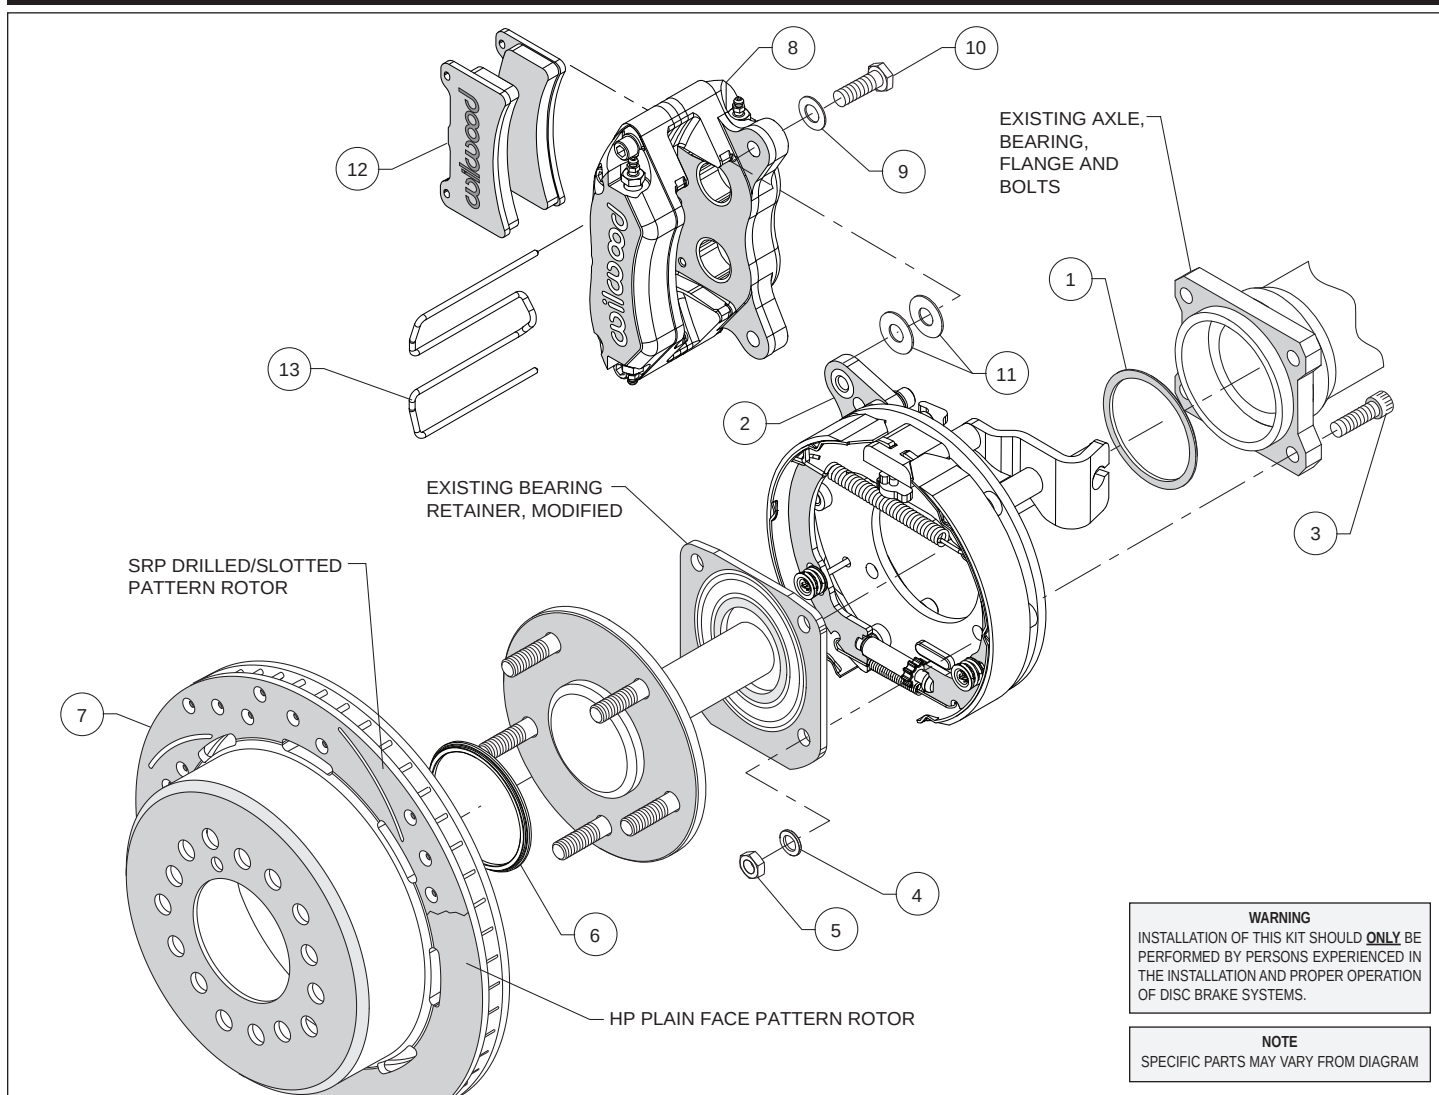
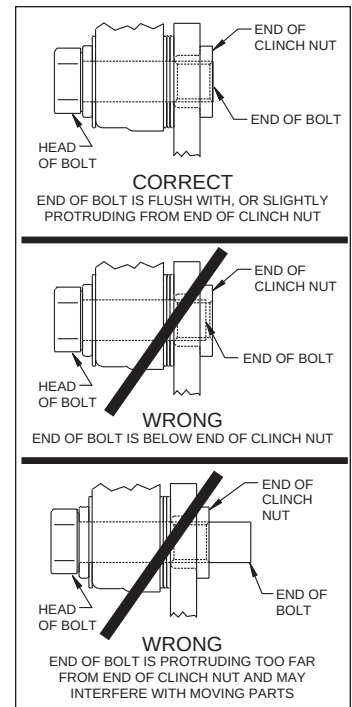

Figure 1. Typical Installation Configuration
Figure 5. Clinch Nut Engagement Diagram
Assembly Instructions (numbers in parenthesis refer to the parts list, and Figure 1 on the preceding pages): **CAUTION:** All mounting bolts must fully engage clinch nuts. Be sure to check that all bolts are either flush or protruding through flanged side of clinch nut after shimming, Figure 5.
- With the bearing retainer in place, slide the caliper mounting bracket assembly (2) onto the axle as shown in Figure 1 and Photo 1. Install axle shim (1) over axle shaft with bearing chamfer facing toward the axle housing, as shown in Photo 2.
- Slide the axle and parking brake assembly into the axle housing ensuring that the backing plate is flush with the axle housing flange and the bearing retainer is flush with the backing plate. Secure OEM bearing retainer using bolts (3), washers (4) and lock nuts (5), as shown in Figure 1. Lock nuts (5) and washers (4) that retain the caliper mounting bracket assembly (2) should be on the wheel side of the bracket, Figure 1. Torque nuts to 40 ft-lbs.
- Slide the rotor registration adapter (6) onto the axle register on the axle flange with the smaller O.D. facing toward the rotor/hat (7), Photo 3. Align the correct hole pattern in the rotor/hat with the stud pattern on the axle flange and slide into place, Figure 1 and Photo 4. **NOTE:** The rotor/hat must fit flush against the axle flange or excessive rotor run out may result. Install three lug nuts (finger tight) to keep the rotor/hat assembly in place while continuing with the installation. **NOTE:** Some OEM and after market axles come with stud sizes larger than 0.50" diameter. Verify stud size and have a qualified machine shop drill the bolt circle of the hat/rotor to the correct stud size, if necessary.
- NOTE:** Please reference the caution statement at the beginning of the assembly instructions. Mount the caliper (8) onto the caliper mounting bracket (2) using bolts (10) and washers (9), as shown in Figure 1. Initially place two .035" thick shims (11) on each bolt between the caliper and the bracket, Photo 5. Temporarily tighten the mounting bolts and view the rotor (7) through the top opening of the caliper. The rotor should be centered in the caliper, Photo 6. If not, adjust by adding or subtracting shims between the bracket and the caliper. Always use the same amount of shims on each of the two mounting bolts. **NOTE:** The end of each bolt must be flush with or slightly protruding from the head of the clinch nut, as shown in Figure 5. If necessary place spare shims between washer (9) and caliper mounting ear to achieve the proper clinch nut engagement. Once the caliper alignment and clinch nut engagement are correct, remove the bolts one at a time, apply red Loctite® 271 to bolt threads, and torque to 40 ft-lb.